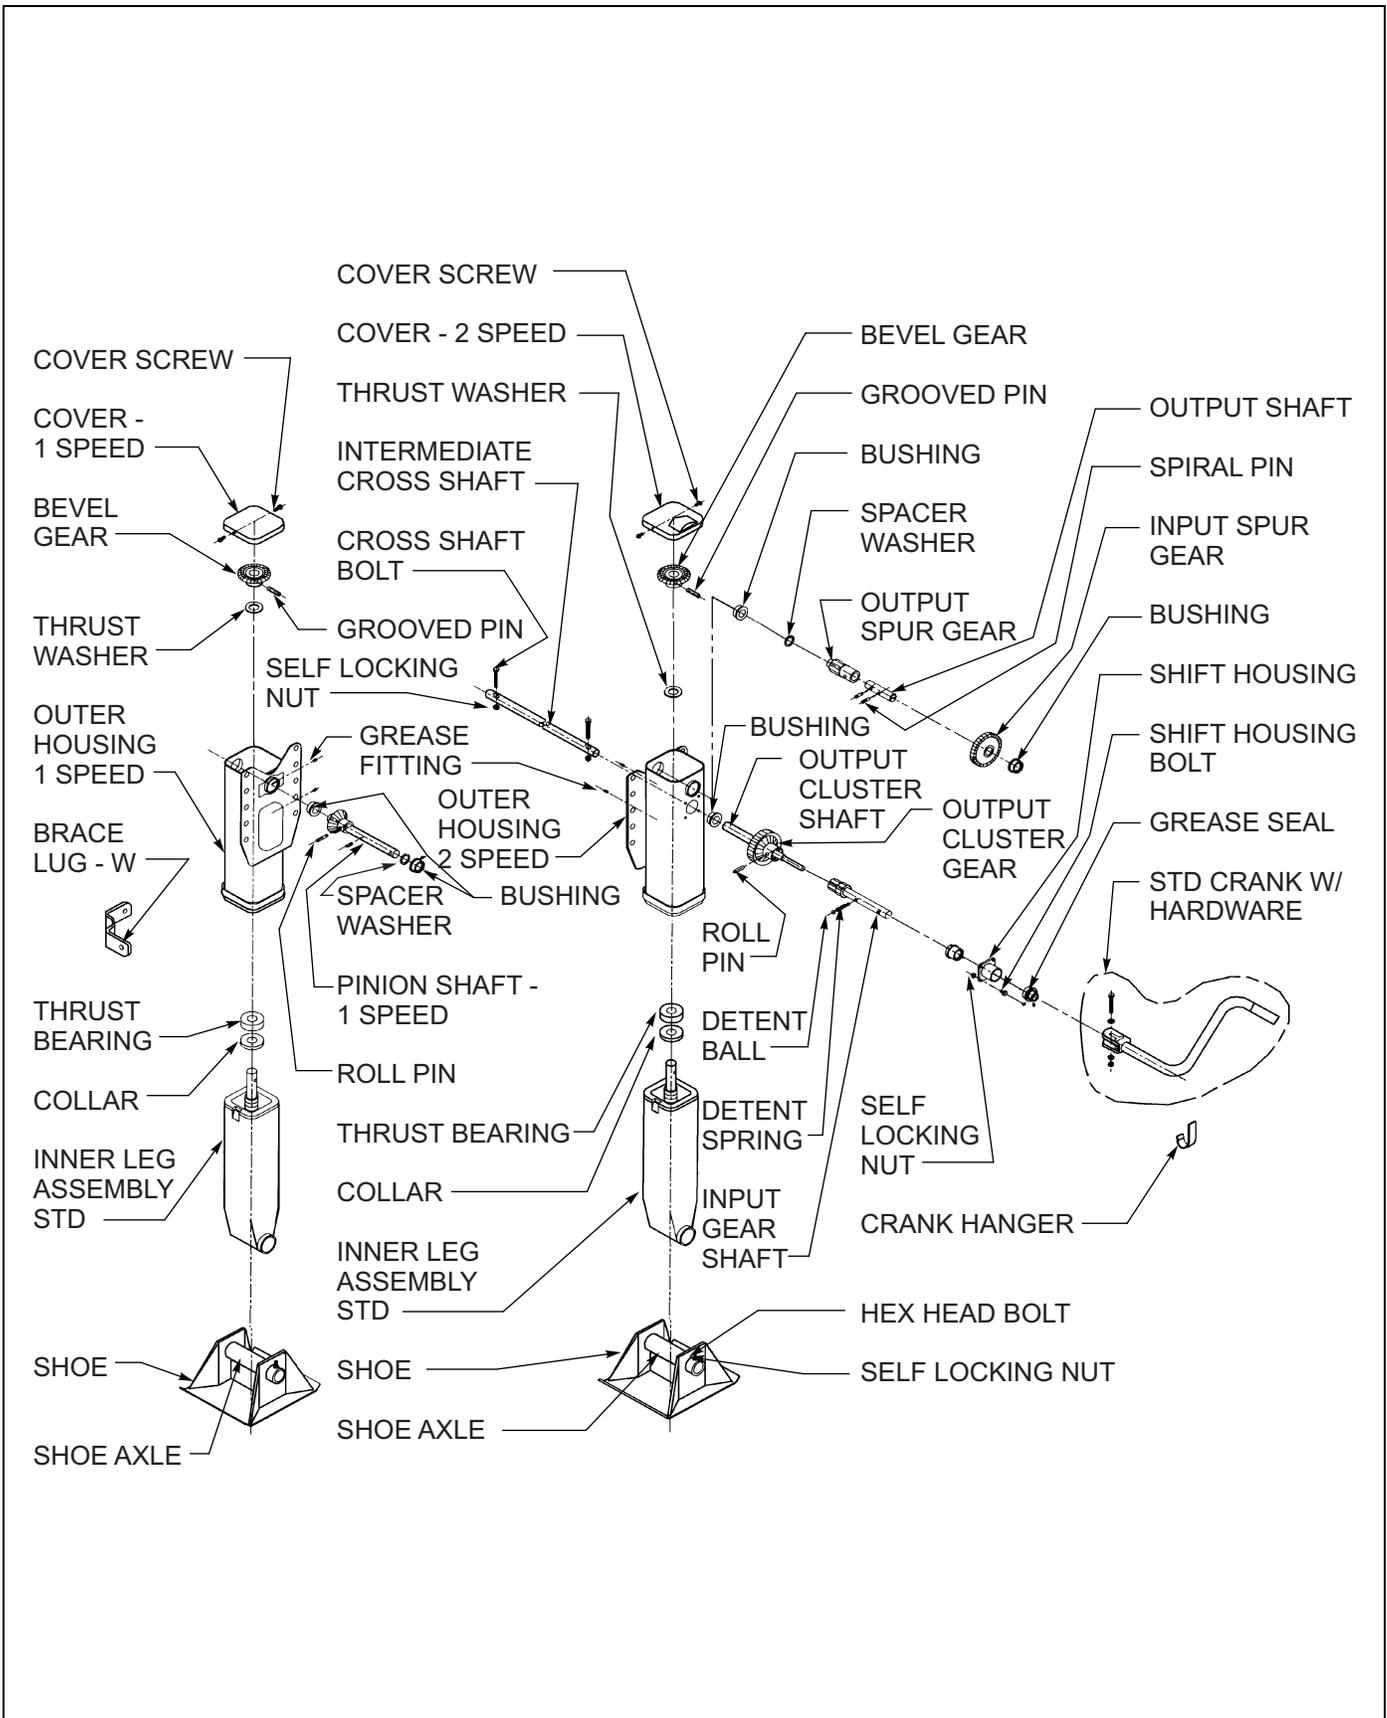

Figure 4-15: Crank Landing Gear Assembly
2. The elevating screw is lubricated by the lower grease fitting located on the upper housing (**See Figure 4-15.**) Prior to lubrication, extend the landing gear as far as possible. During lubrication, slowly retract the landing gear. The upper grease fitting lubricates the gearing, shafts, and bushings. It is recommended to use a high quality commercial grade lithium EP-2 grease.